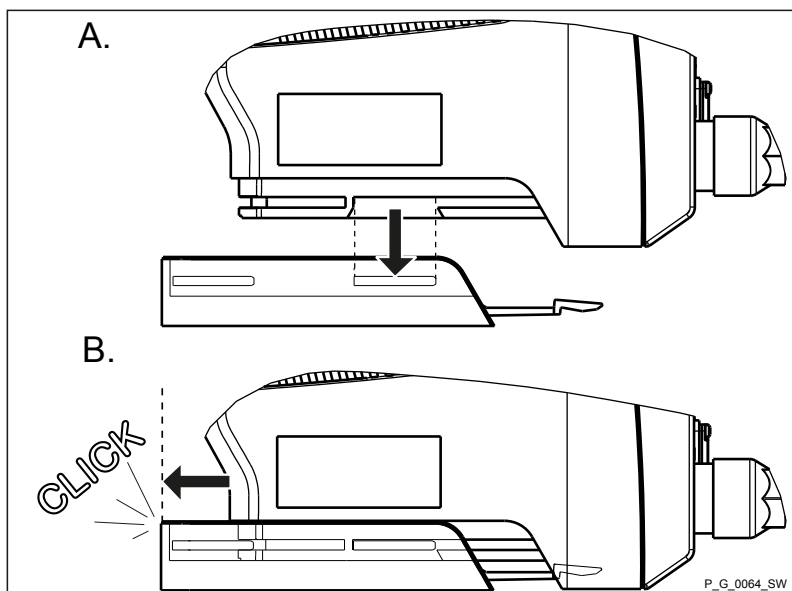

Fig. 10
3. ➔ Lock the foot of the metering pump into the mounting plate – see Fig. 10.